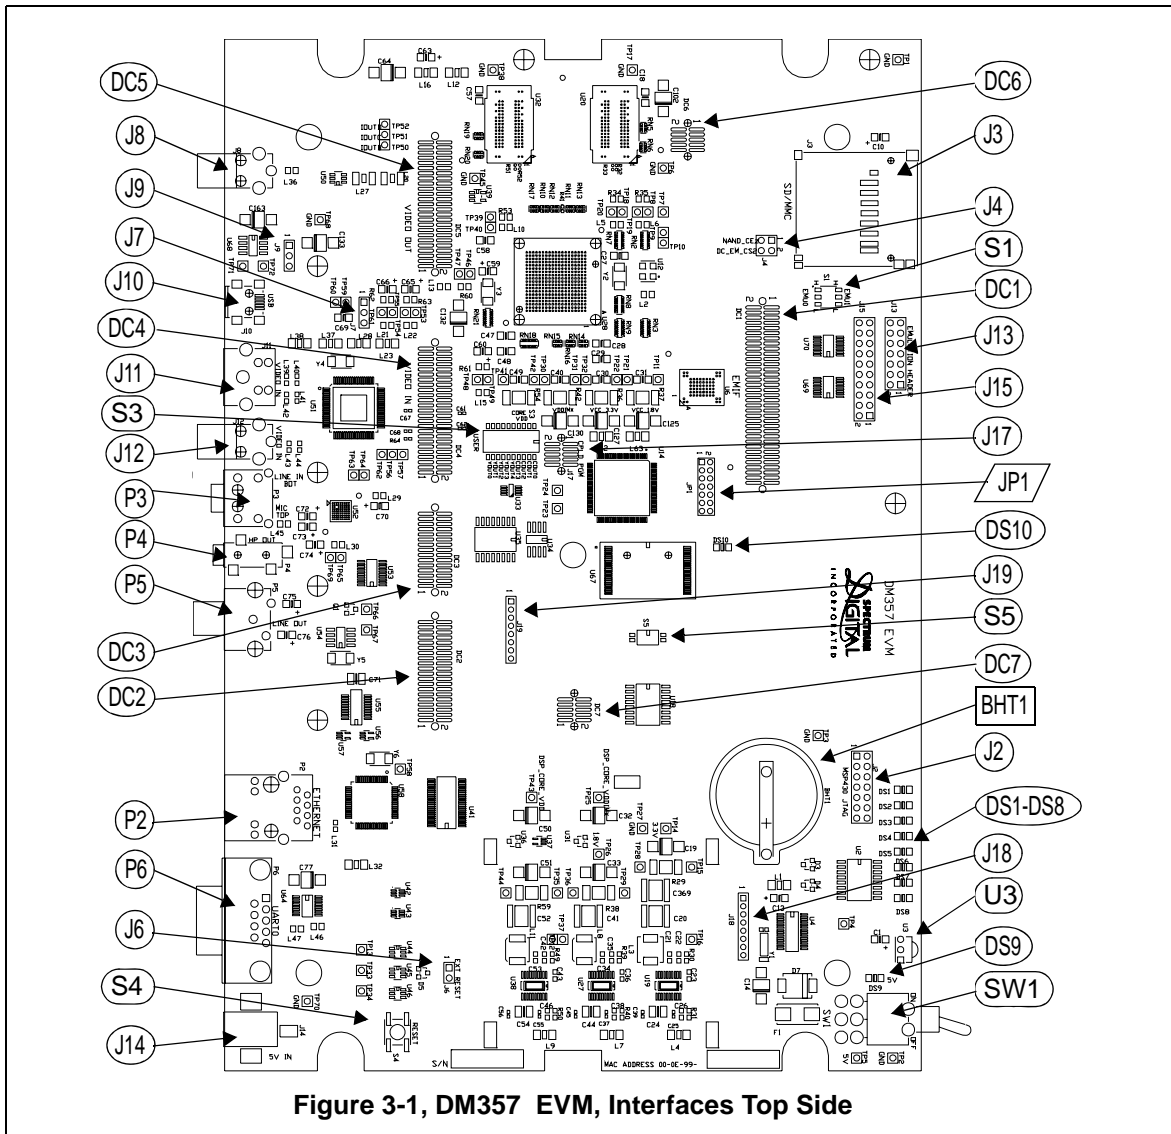

Figure 3-1, DM357 EVM, Interfaces Top Side
The DM357 EVM is a 6.75 x 10.0 inch (171 x 254 mm.) ten (10) layer printed circuit board which is powered by an external +5 volt only power supply. Figure 3-1 shows the layout of the DM357 EVM.